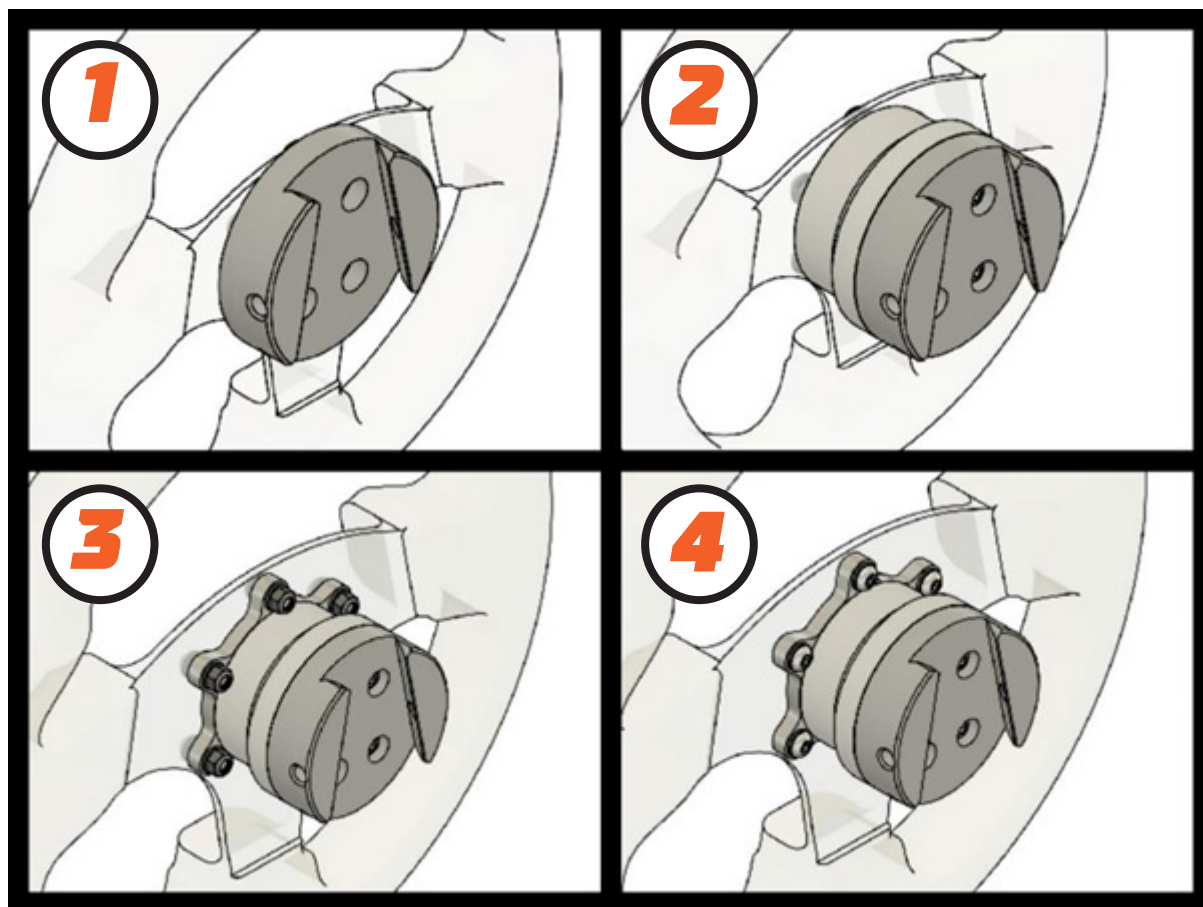

Figure 7 SQR assembly options
Standard configurations (Figure 7) include (1) 50.8 mm PCD (pitch circle diameter) front mounting without the spacer, (2) 50.8 mm PCD front and back mounting with the spacer and (3+4) 70 mm PCD front and back mounting.